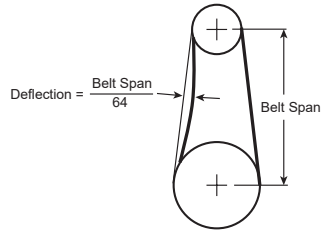

Figure 7
- c. Models 3ATU4, 3ATU5, 3ATU6, 3ATU7, 3ATU8, 3ATU9, 3ATV1, 3ATV2, 3GY73, 3GY74, 4YY18, 4YY19, 4YY20, 4YY21, 4YY22, 5DV07, 5DV08, 6KWK3, 16D526: Belt tension should be adjusted to allow 1/64 inch of deflection per inch of belt span when moderate thumb pressure is applied. See Figure 7.